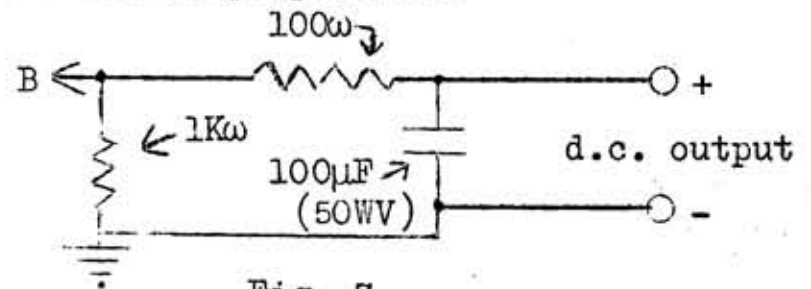

Fig. 7
- 5) A condenser cannot be connected directly across the output for filtering, because the firing circuit relies, to some extent, on an a.c. output to synchronise the firing pulses. The circuit of Fig. 7, however, will not affect the firing system, though it will worsen the load regulation somewhat.